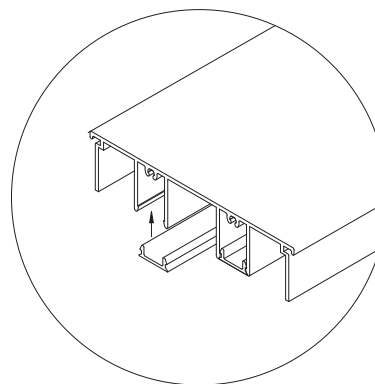

Figure 9
13. Next install the main frame head screw covers. Snap the screw cover in at corner making sure that the seam is minimal. Tap the cover into place with a plastic mallet making sure the cover is not separating from the corner. The head screw covers will fit part way into the main frame jambs. You may have to arch the material to get them in tight. (See Figure 9)